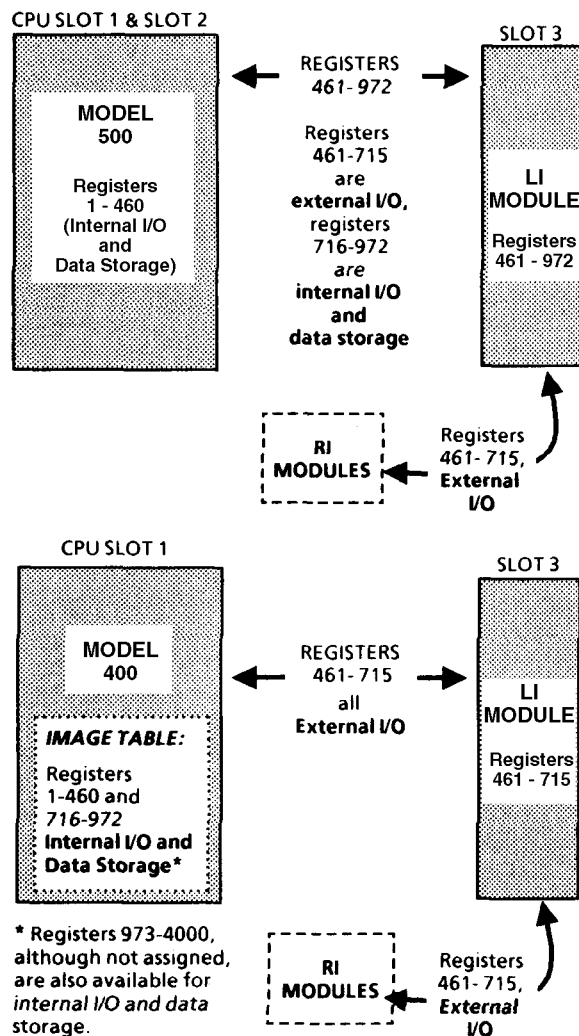
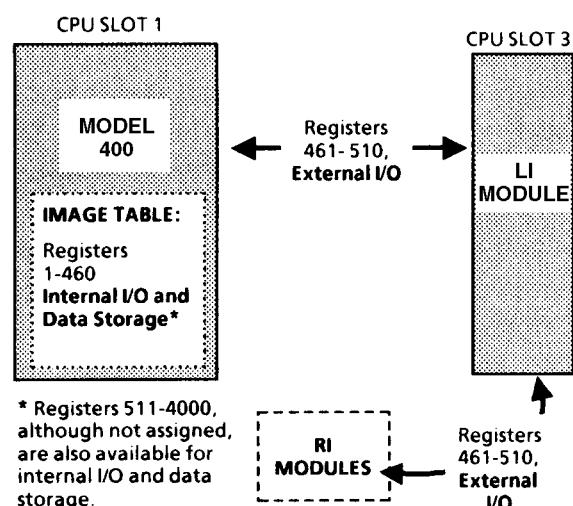

Figure 3.3 Model 400 vs. 500 Rack Addressing
Figure 3.3A Model 400 Rack Addressed with 50 Remote Registers
The Model 400 can use programming and rack addressing configurations designed for other SY/MAX processors. An example of how this is accomplished is shown in Figure 3.3.
Refer to Figure 3.3. A common Model 500 configuration is to assign the first 460 registers to slot R1, and registers 461 through 972 to a Local Interface in slot R3. External I/O registers in this configuration begin at register 461 and could extend up to register 715 (although consuming all 255 external registers, the maximum for a single Local Interface, would be unusual).
The example Model 400 configuration pictured in Figure 3.3 shows the absolute maximum number of registers (255) being transferred between the processor and the Local Interface module. The throughput of this example could be improved substantially if only the registers associated with actual drops are transferred between the Model 400 and Local Interface, as shown in Figure 3.3A.
If only 50 remote registers need be remotely addressed, the best configuration of the Model 400 shown in Figure 3.3 that would NOT require the re-addressing of registers in the program, appears as shown in Figure 3.3A. This is accomplished by assigning 460 registers to CPU slot 1, and 50 registers (461-510) to CPU slot 3. Registers above 510 would not need to be assigned, but would still behave as storage registers.